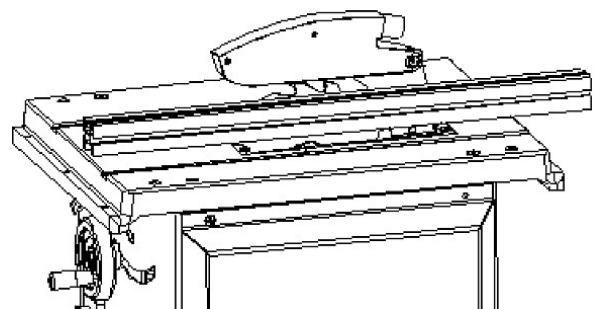

Fig. 23: Control riving knife
Step 2: Check whether the riving knife with the table insert is parallel to the saw blade (Fig. 23).